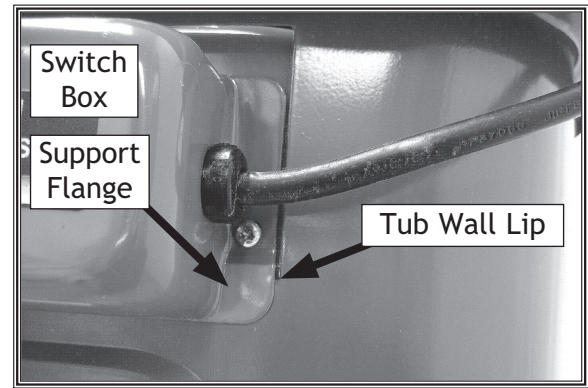

Figure 2. Pump and switch box support flange.
6. Hang the switch box so the tub wall lip slips under the switch box support flange as shown in **Figure 2**.